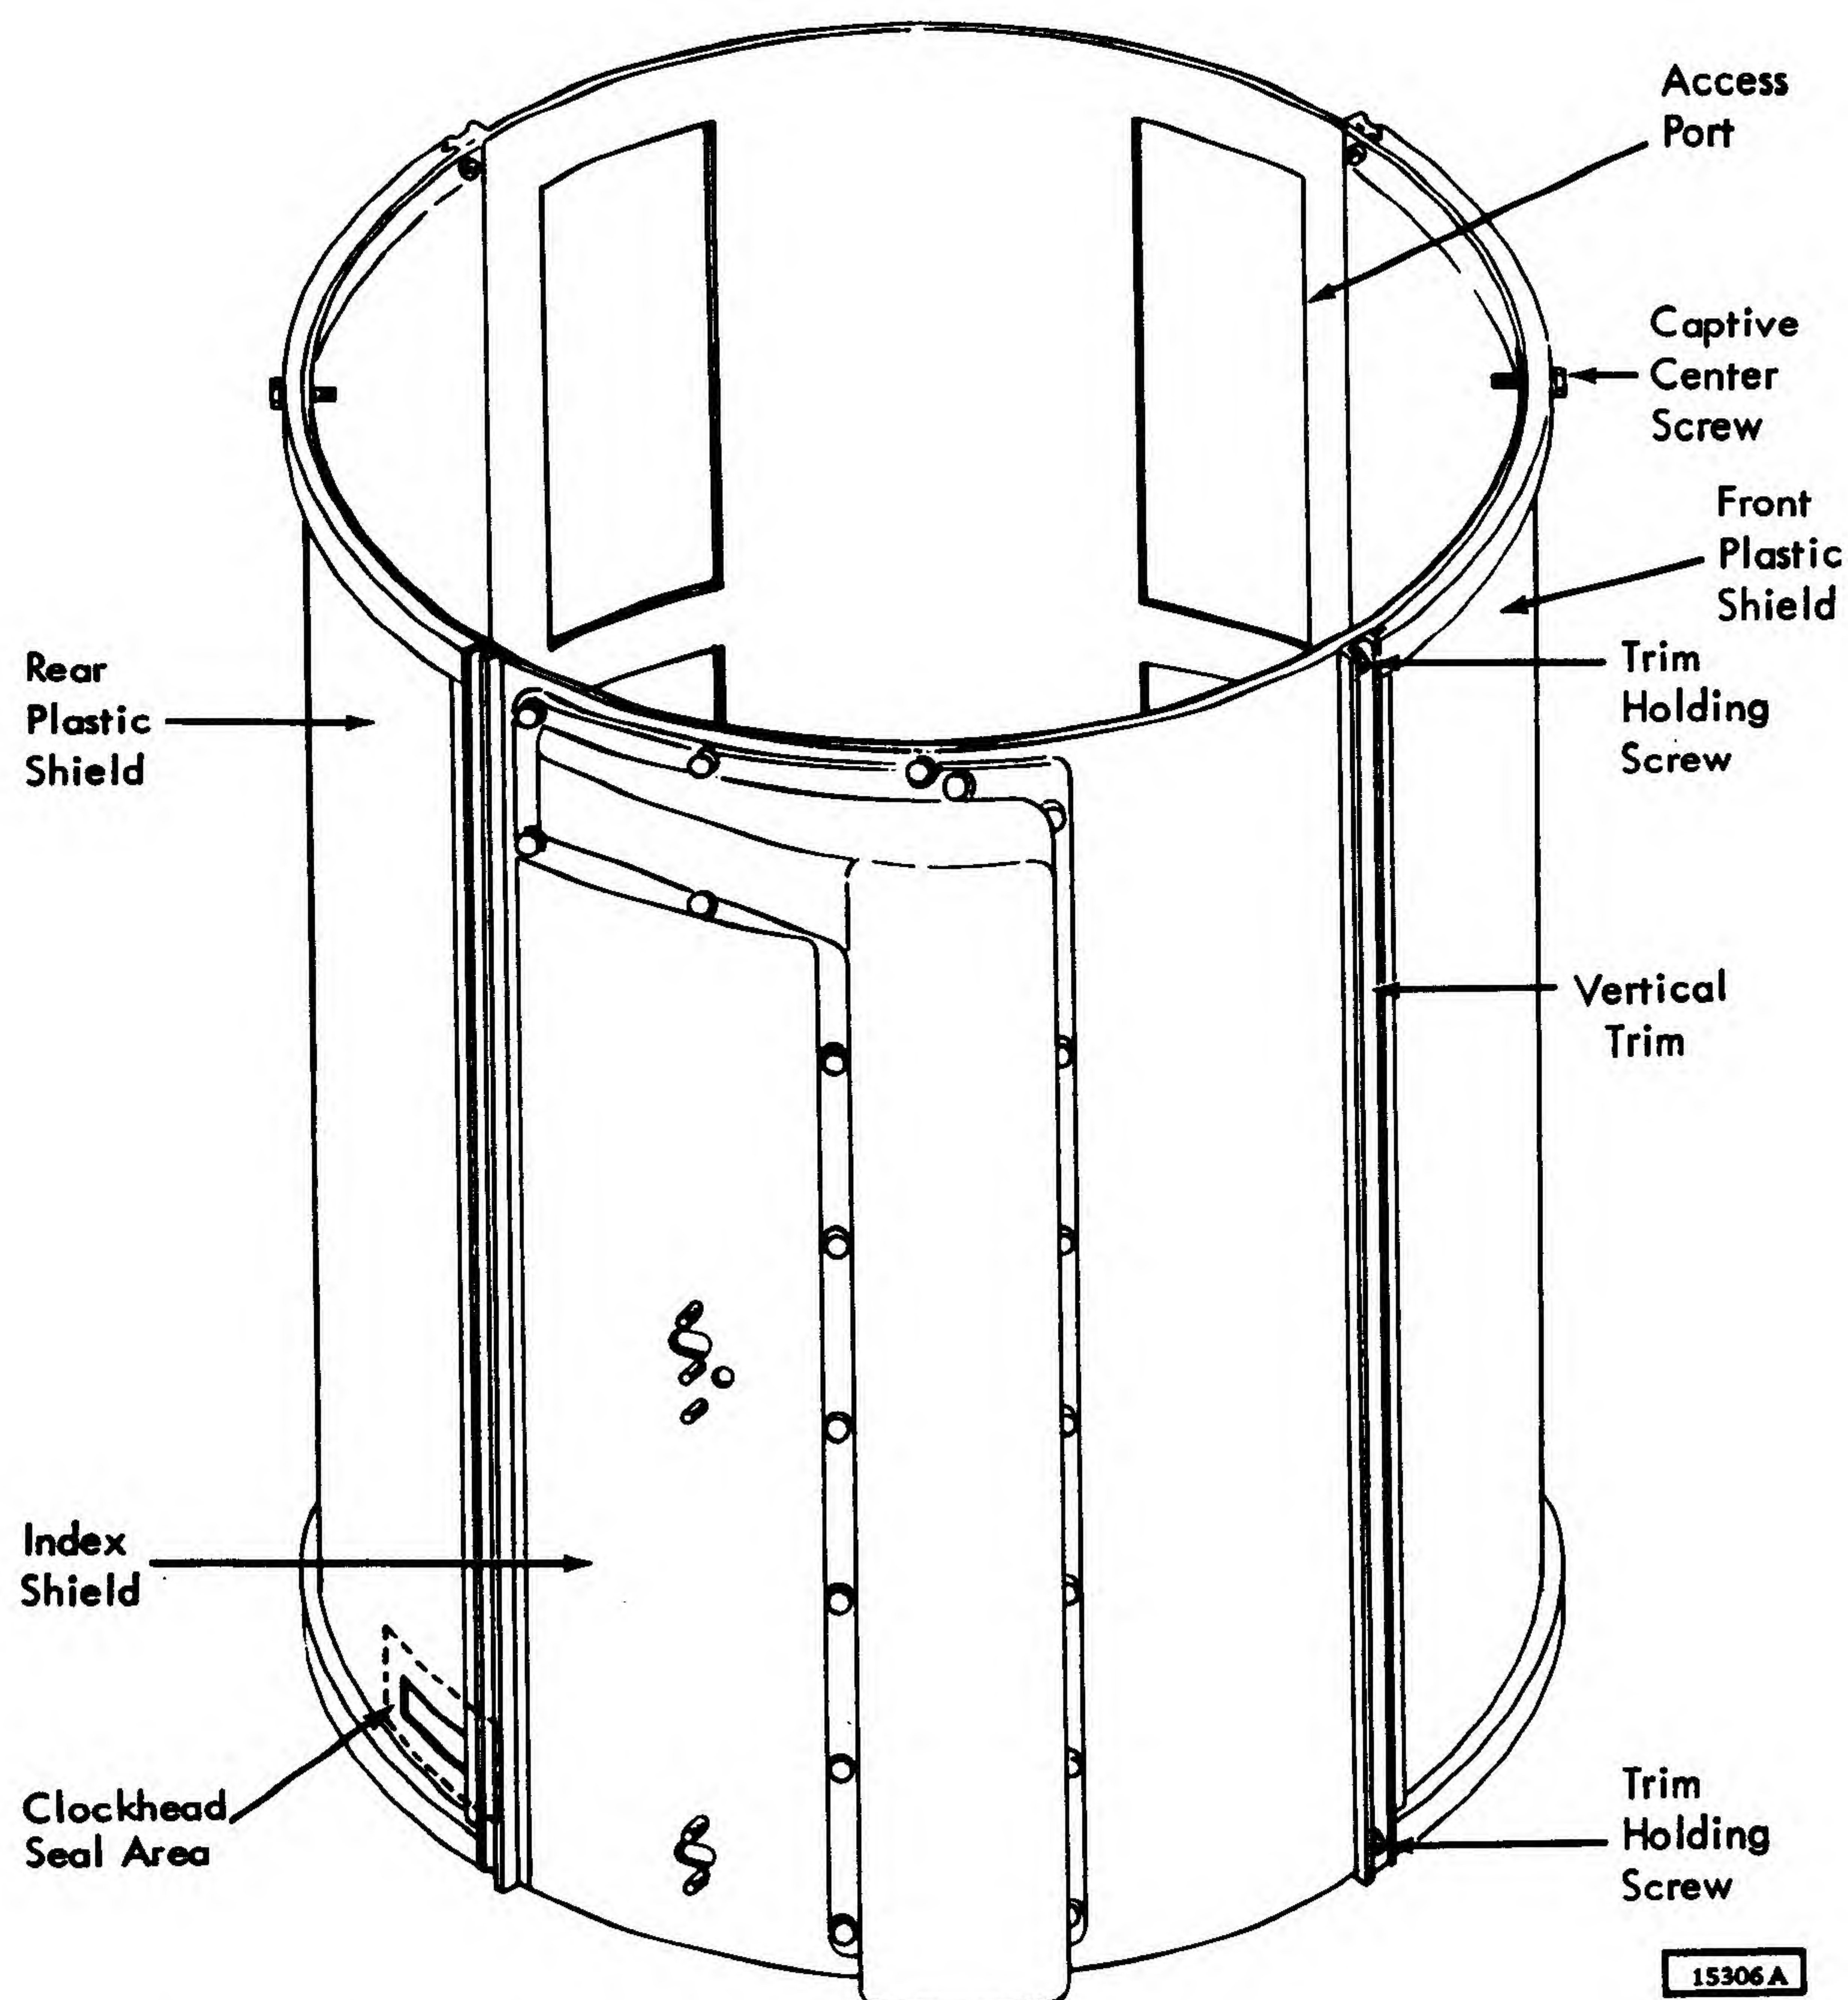

Figure 4-1. Disk Array Shields
2. Vacuum false floor and all surfaces surrounding plastic shields (Figure 4-1).
5. Remove vertical trim (Figure 4-1).
1. Clean the plastic shield (Figure 4-1) with Isopropyl Alcohol and lint-free tissue.
##### 4.3.2 Index shield (Figure 4-1)
#### 4.3.3 Access Port Shield (Figure 4-1)